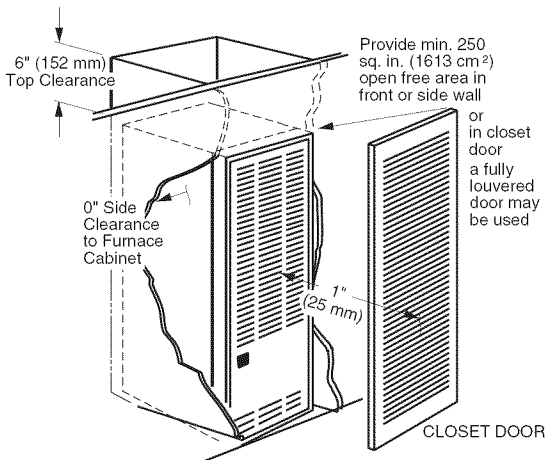

Figure 3. Special 1" Clearance
- The dimensions of the room or alcove must be able to accommodate the overall size of the furnace and the installation clearances listed in Table 1 and Figure 3 (page 6)